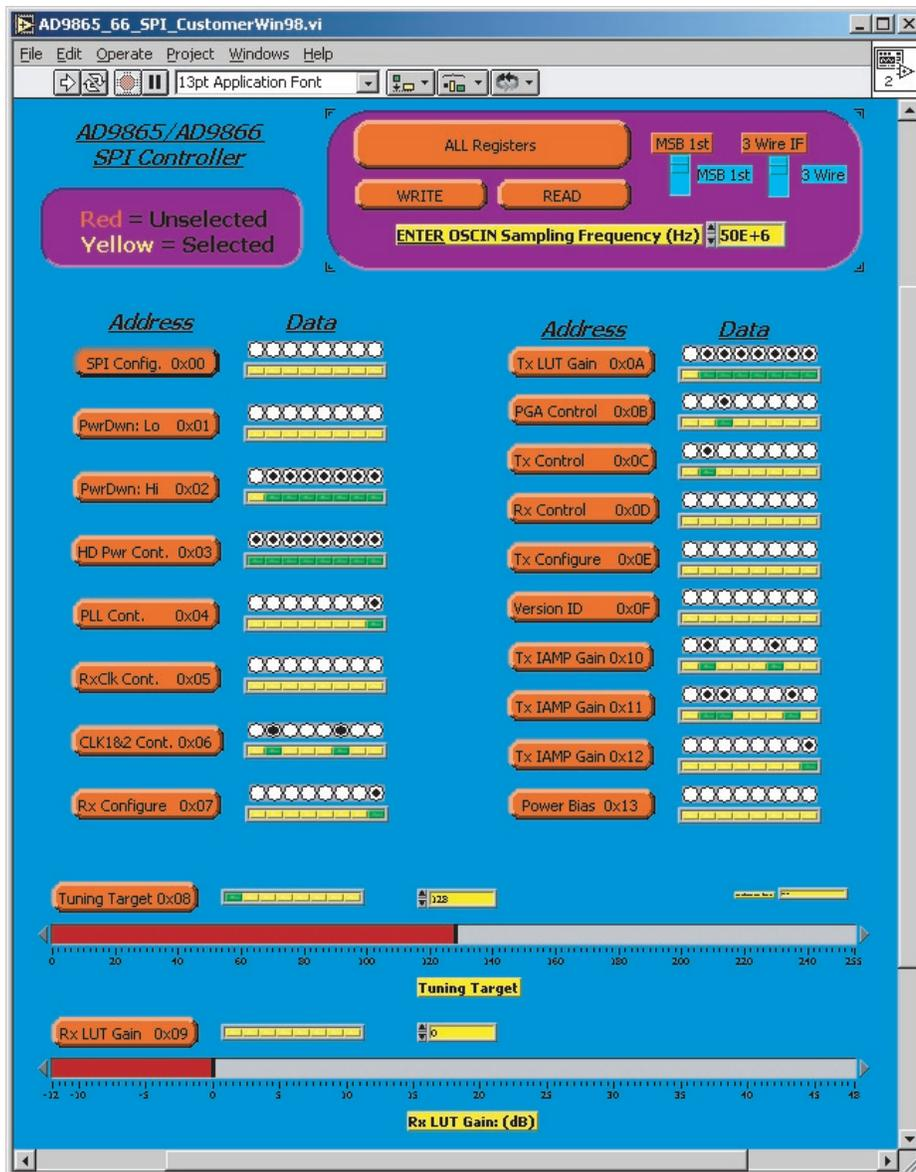

Figure 1. Front-Panel Display of the AD9865/AD9866 SPI Controller GUI
3. Run the AD9865\_66\_SPI\_Win2K\_NT.exe application. The graphical user interface (GUI) appears. See Figure 1.
The graphical user interface (GUI) appears. See Figure 1.
The SPI controller GUI provides write and read access to all the SPI registers required to program and optimize the AD9865 and AD9866 MxFEs. Figure 1 shows the front-panel display of the GUI. The default setting is for a 3-wire SPI interface with MSB format. This can be changed to a 4-wire SPI interface and/or LSB format by toggling the designated switches located at the top of the display. Note that the user must also set Bit 7 of Register 0x00 prior to changing over to a 4-wire interface.